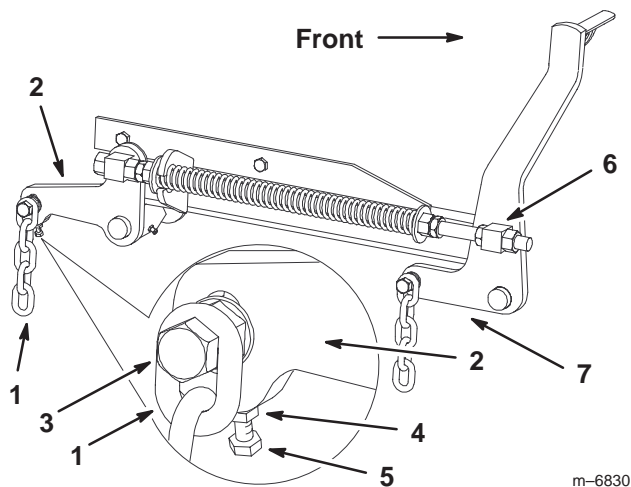

Figure 66
7. If the measurements at positions **B** or **C** are not correct, loosen the bolt attaching the rear chain to the rear support arm (Fig. 66).